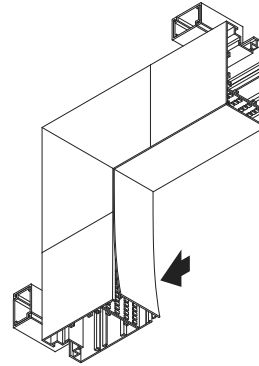

Figure 5a
- After assembling the LED tape and end caps, measure and cut the diffuser lens to the length of the run with razor knife or slowly with chop saw. (Figure 5a)